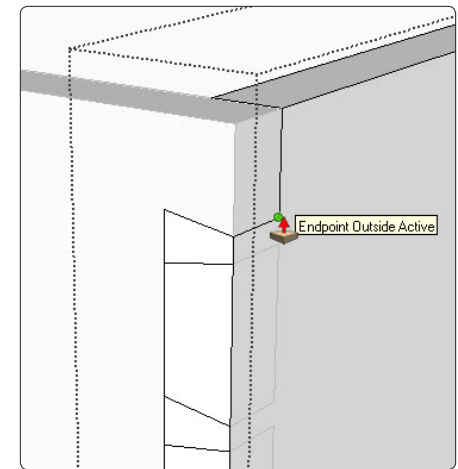
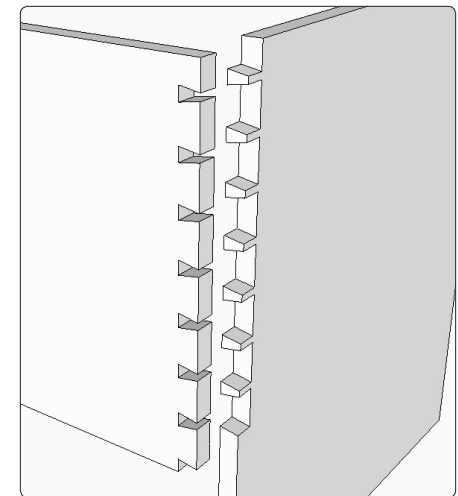

Figure 33. Use the Push/Pull Tool to push out the tail shape.
Figure 34. This is what the finished dovetail joint should look like.
Step 12 Use the Push/Pull Tool to push out the tail shape. Click on the back edge of the front component to stop the push (Figure 33). Double-click the Push/Pull Tool on each of the remaining tail shapes to remove the waste. Figure 34 shows the final joint after moving the two components apart with the Move/Copy Tool. You can copy and paste the